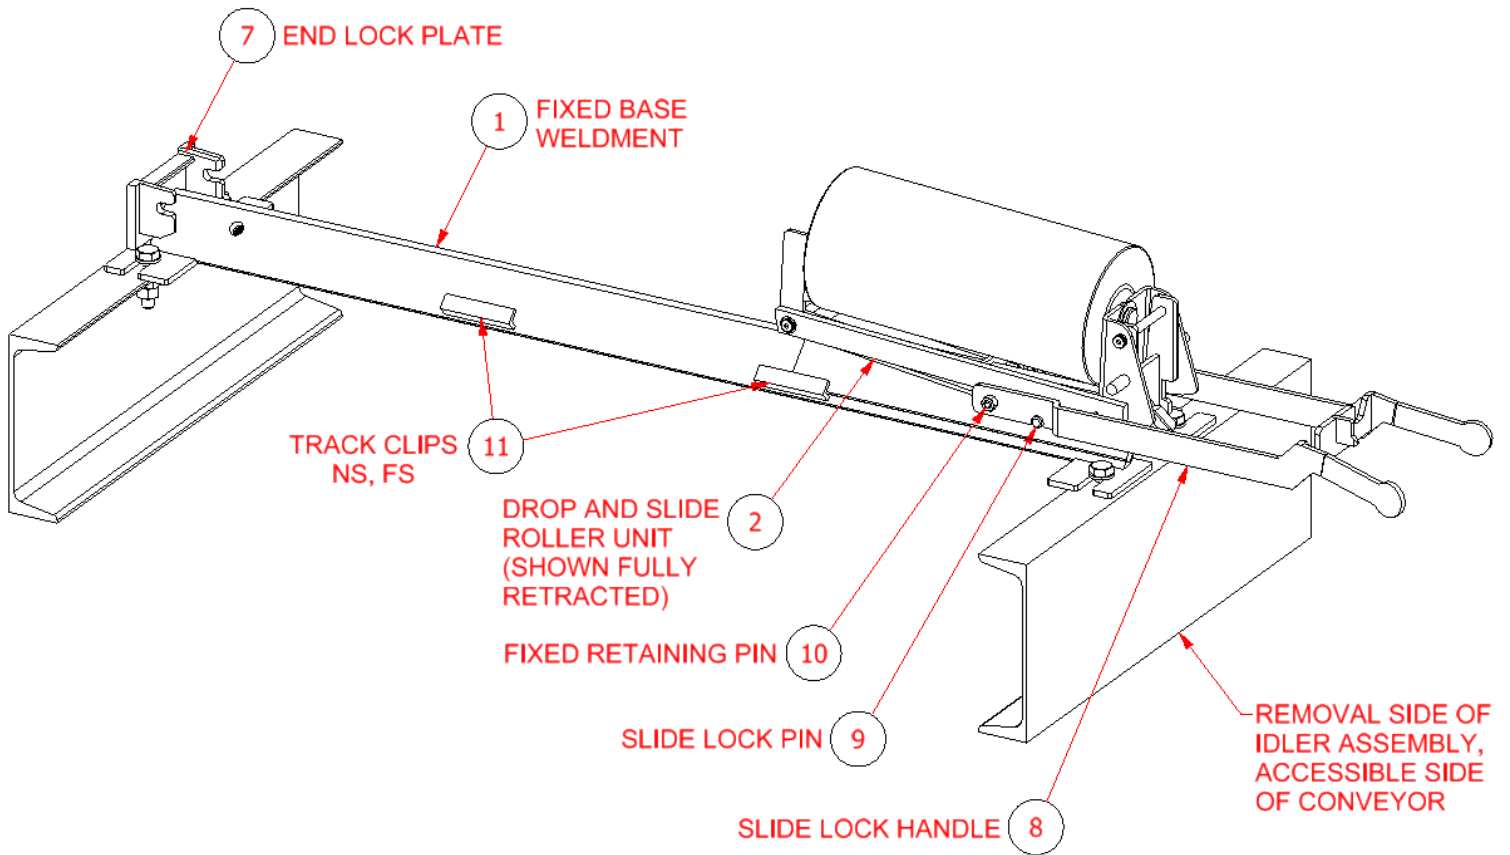
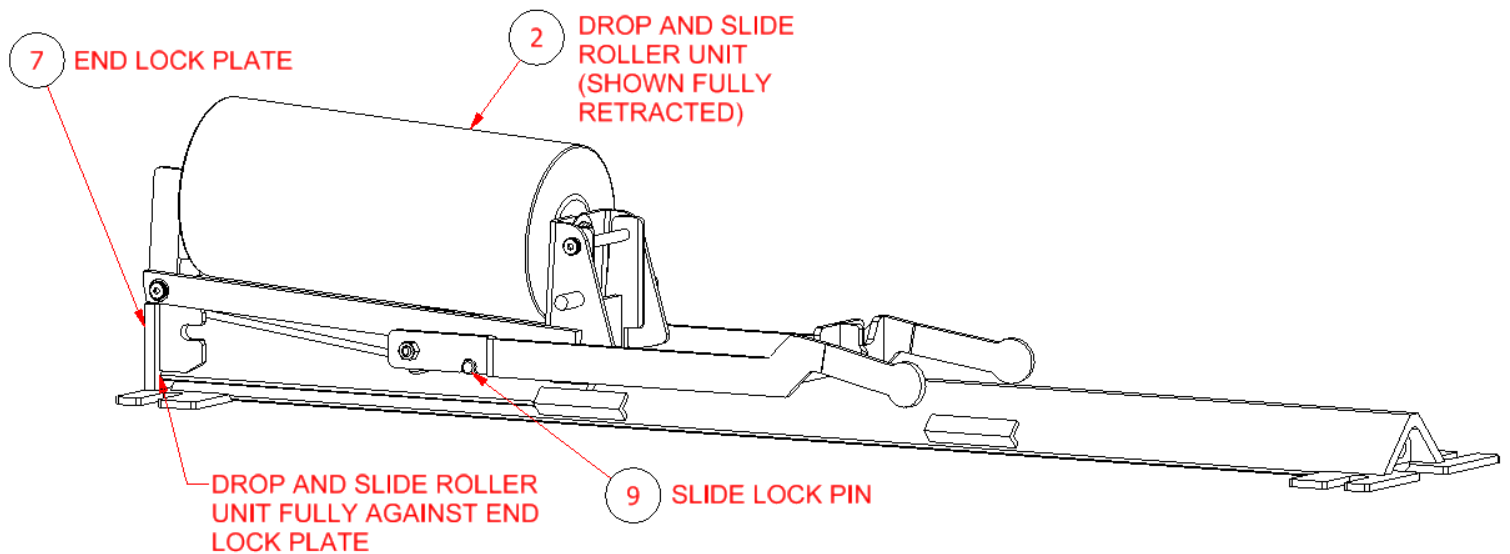

Figure 2
Figure 3
3. Mount the Fixed Base Weldment (1) to the conveyor structure or decking such that the End Lock Plate (7) is mounted toward the inaccessible side of the conveyor, see Figure 2 below. For troughing and picking idlers, consult the APPENDIX as needed for proper spacing and hardware size. Mounting hardware is not provided however, a typical example is shown in Figure B.I.3 on page 6.
4. Slide the Drop and Slide Roller Unit (2) onto Fixed Base Weldment (1). This must be done from the accessible side of the conveyor (which may be opposite of side illustrated in Figure 2). Note; when properly installed, all roller units will be slid under the Track Clips (11).
5. With the Slide Lock Handle (8) properly engaged with the Slide Lock Pin (9) as shown in Figure 2, slide the Drop and Slide Roller Unit (2) toward the End Lock Plate (7) until the unit stops fully against it as shown in Figure 3 below.